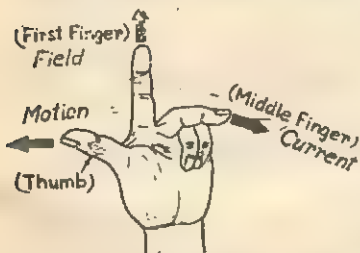

Fig. 12.9. Fleming's Left Hand Rule.
(3) A conductor carrying current, is acted upon by a force when it is placed in an external magnetic field which is produced by some other source. The direction of the force is given by **Fleming's Left Hand Rule** when the direction of the current and the external magnetic field are perpendicular.
**Fleming's Left Hand Rule.** Stretch the first finger, middle finger and thumb of the left hand [as shown in Fig. 12.9]. If the first finger points in the direction of the magnetic field, the middle finger points in the direction of the current, then, the thumb will point in the direction of the force on the conductor carrying the current. Hence the conductor will move in the direction in which the thumb points out! This rule for getting the direction of motion of conductor carrying current placed in perpendicular magnetic field is known as F.L.H. rule.